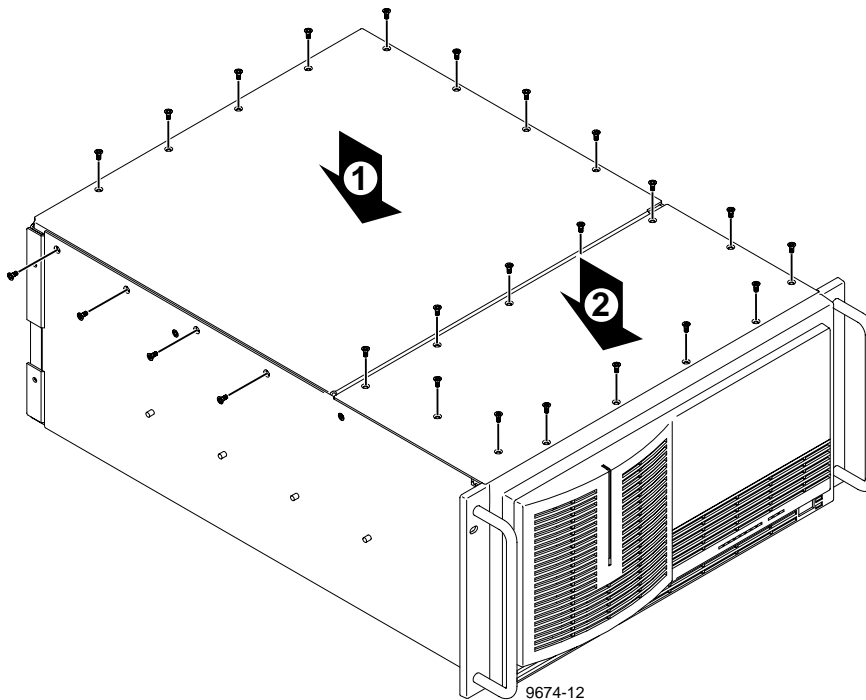

Figure 19. Replacing PDR100 covers
1. Set board area cover in place (❶ in Figure 19) and use the Torx tool with the T10 bit to replace the twelve cover screws; eight on top and four from the side.
2. Set disk drive cover in place (❷ in Figure 19) and use the Torx tool with the T10 tip to replace the cover with the screws previously removed.
**NOTE:** Your PDR100 may have more disk drive cover screws than shown in Figure 19 if you have 9GB drives installed.